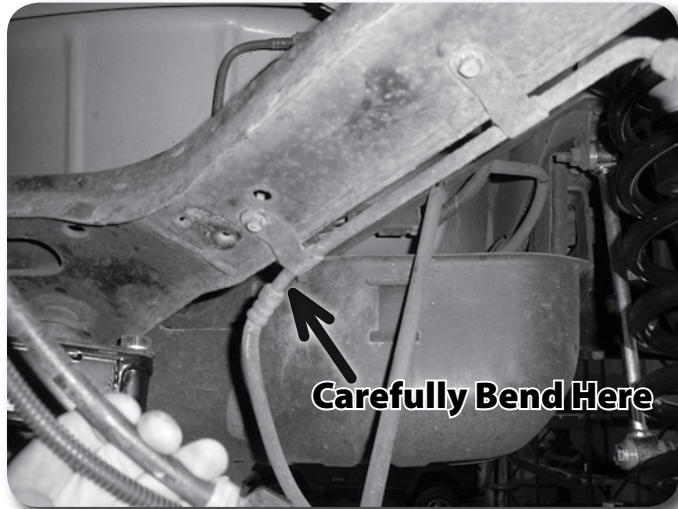

Figure 20
16. Reattach the brake line to the driver's side of the upper control arm using the original hardware. In some cases it may be necessary to slightly bend the end of the hardline at the control arm to gain slack for the rubber line running from the control arm to the axle. **Figure 20** Only enough slack is needed to hook up the line to the upper control arm.